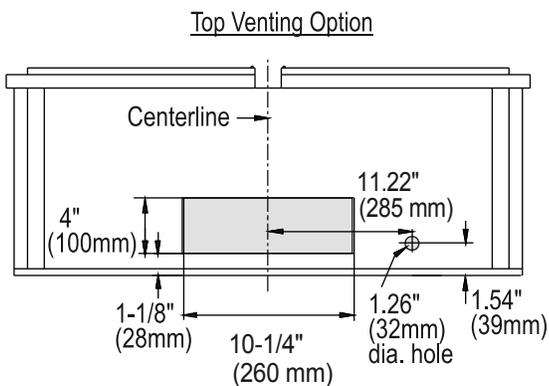
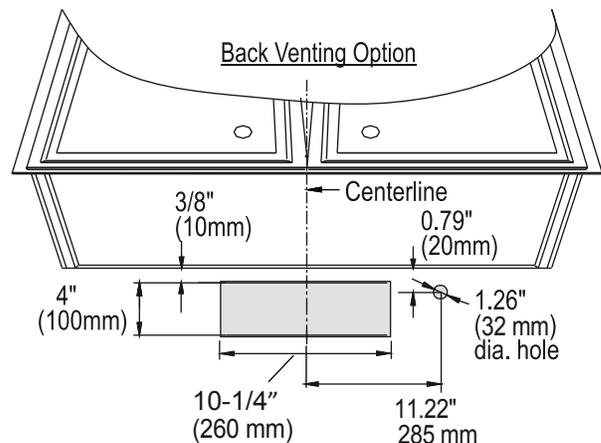

Fig.3
Fig.4
- Determine if your existing venting system is top venting or back venting, and ensure that the openings in the cabinet or wall for the transition and for power access are in appropriate locations and are of appropriate sizes, as per Fig. 3 if it is top vent or Fig. 4 if it is back vent.